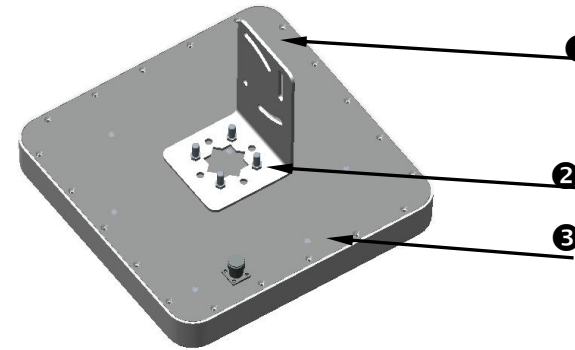

Figure 5. Vertical mounting step 1
①	L board (Bracket)
②	M6 screw, elastic washer and plain washer
③	FSC-RA01DL antenna
Step 1: Use M6 screw, elastic washer and plain washer, to fix the L board on the antenna, please see Figure 5.